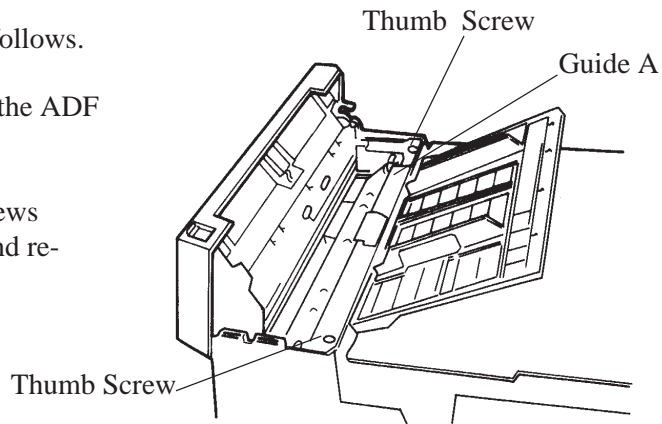

Figure 5.4 Pick Roller replacement
- Remove two thumb screws shown in Figure 5.4. And remove the Guide A.